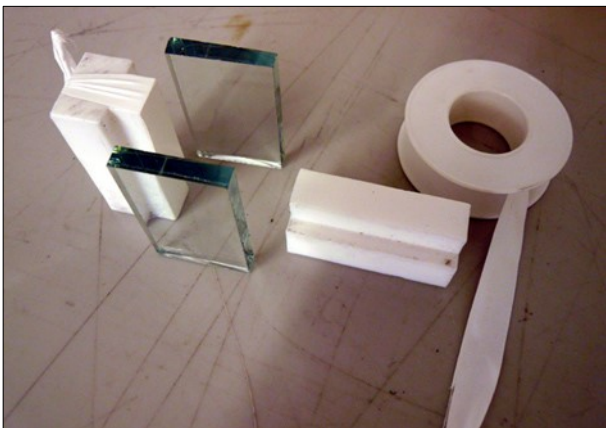
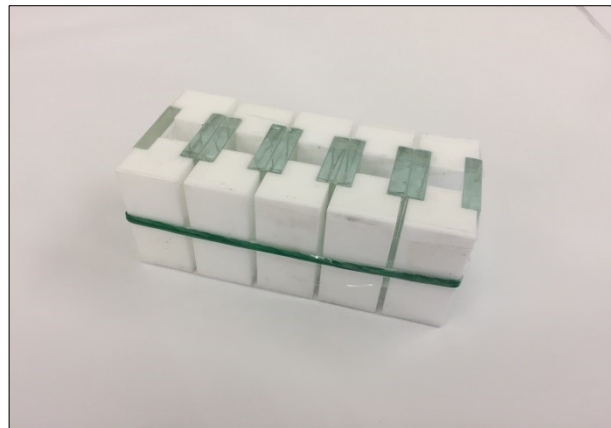
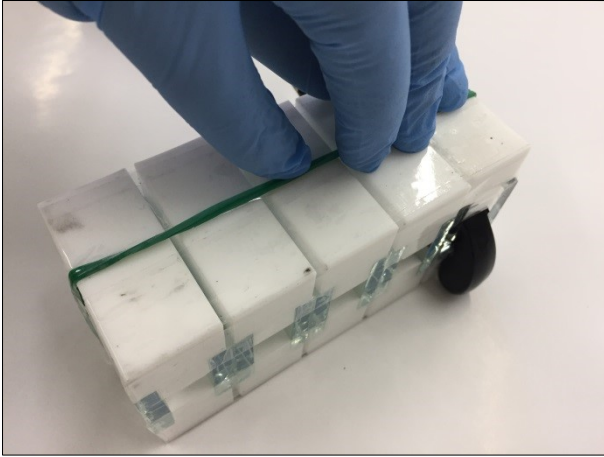

Figure 20: Spacers, e-PTFE tape (tape necessary for 1-component adhesives) and substrate pieces (e.g. glass)
Figure 21: Arrangement and fixation of the samples with a rubber band and tape
Figure 22: Injection of the silicone adhesive into the joint
1. Fix the glass and/or metal (use original material specified in project) test specimens to be bonded with spacers [8] and, if applicable, distance pieces (Figure 20 - Figure 21) so that a joint measuring 12 x 12 x 50 mm can be filled (Figure 22). For 1-part adhesives wrap an e-PTFE tape around the spacers before assembly.